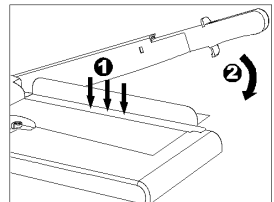

Fig. 3
- Press down with one hand on the pressing rail to clamp the material to be cut (Fig. 3/1).
- Use the other hand to move the guillotine arm down and cut the material (Fig. 3/2).